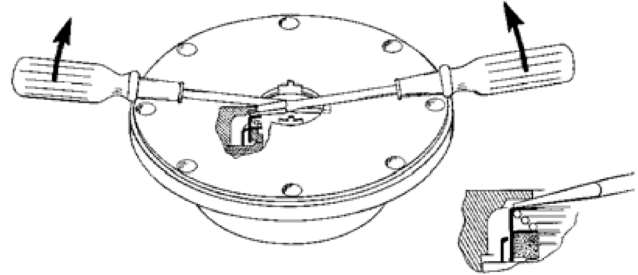

Figure 5 – Mechanical Seal Removal
2. Remove the four adapter capscrews (20C) to release the adapter (135). Remove the motor mounting bolts. With the aid of a lifting device, slide the motor and gearbox away from the pump. Refer to "Gear Reducer Maintenance" for reducer disassembly instructions.
4. Remove the outboard bearing cover capscrews (28) and the outboard bearing cover (27) and bearing cover gasket (26). Discard the bearing cover gasket.
6. Remove the head capscrews (21). Gently pry the head away from the cylinder.
7. Slide the head off the shaft. The head O-ring (72), bearing (24), and mechanical seal (153) will come off with the head assembly. Remove and discard the head O-ring.
- a. Pull the bearing (24) from the housing in the head.
- b. To remove the mechanical seal, use two screw drivers against the backside of the seal jacket to gently push the seal from the head (see Figure 5). Use care when placing the screw drivers to prevent damage to the seal faces. Remove and discard the seal O-rings.